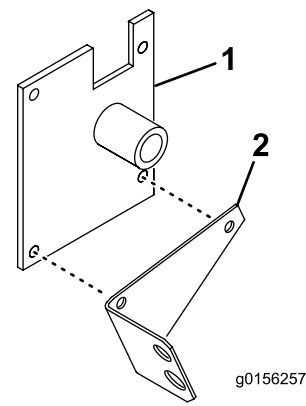

Figure 13
4. Secure the top of the right hopper-mounting bracket to the right side of the machine with 2 bolts (3/8 x 1 inch) and 3/8 inch lock washers (Figure 13). The notch in the bracket is to fit around the hood latch.
5. Secure the bottom of the bracket and coupler bracket to the frame with 2 bolts (3/8 x 1 inch) and locknuts (Figure 13).